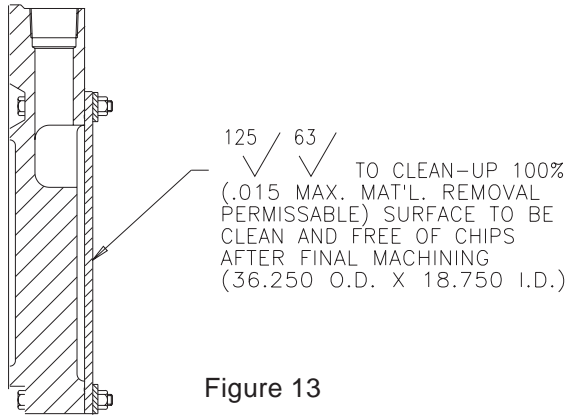

Figure 13
NOTE: New wear plates (3), on 36 WCBs, require machining after they are installed. See figure 13 for machining specifications.